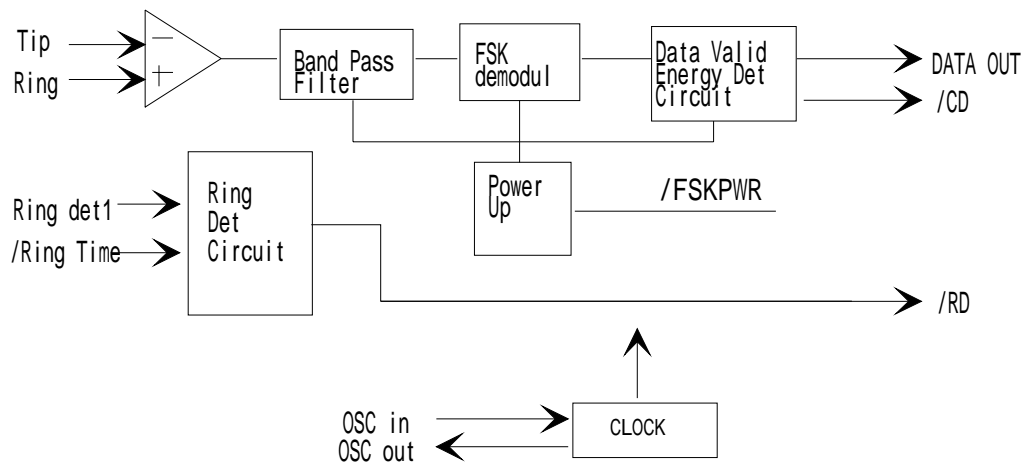

Fig15. FSK Block Diagram
* Bit 2~4 (Bias1~Bias3) Control bits used to choose LCD operation voltage . The circuit can refer ti figure15.